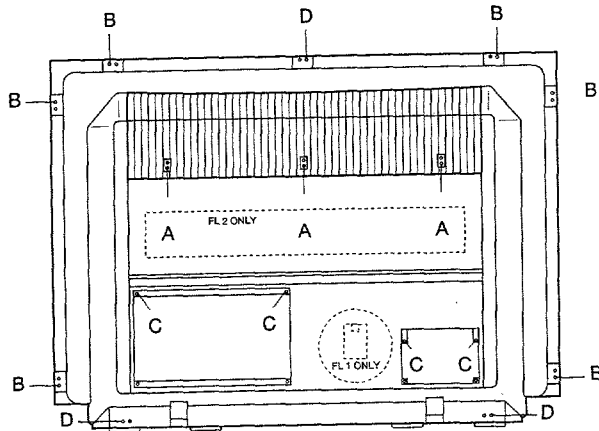

Fig.2
2. Removing the rear panel (fig.2 + 3)